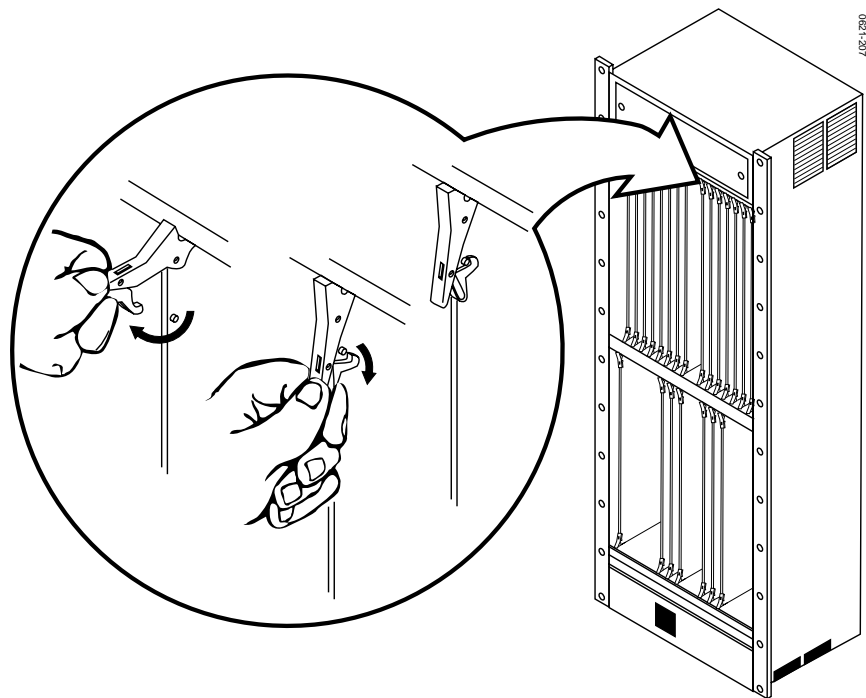

Figure 4-1. A and B Bay Module Removal
2. Remove the modules by unlocking the top and bottom levers as shown in Figure 4-1. Pull the circuit module straight out and away from the frame.
2. Secure the module by moving the locking levers into the locked position, thereby seating the edge connector. See Figure 4-1.